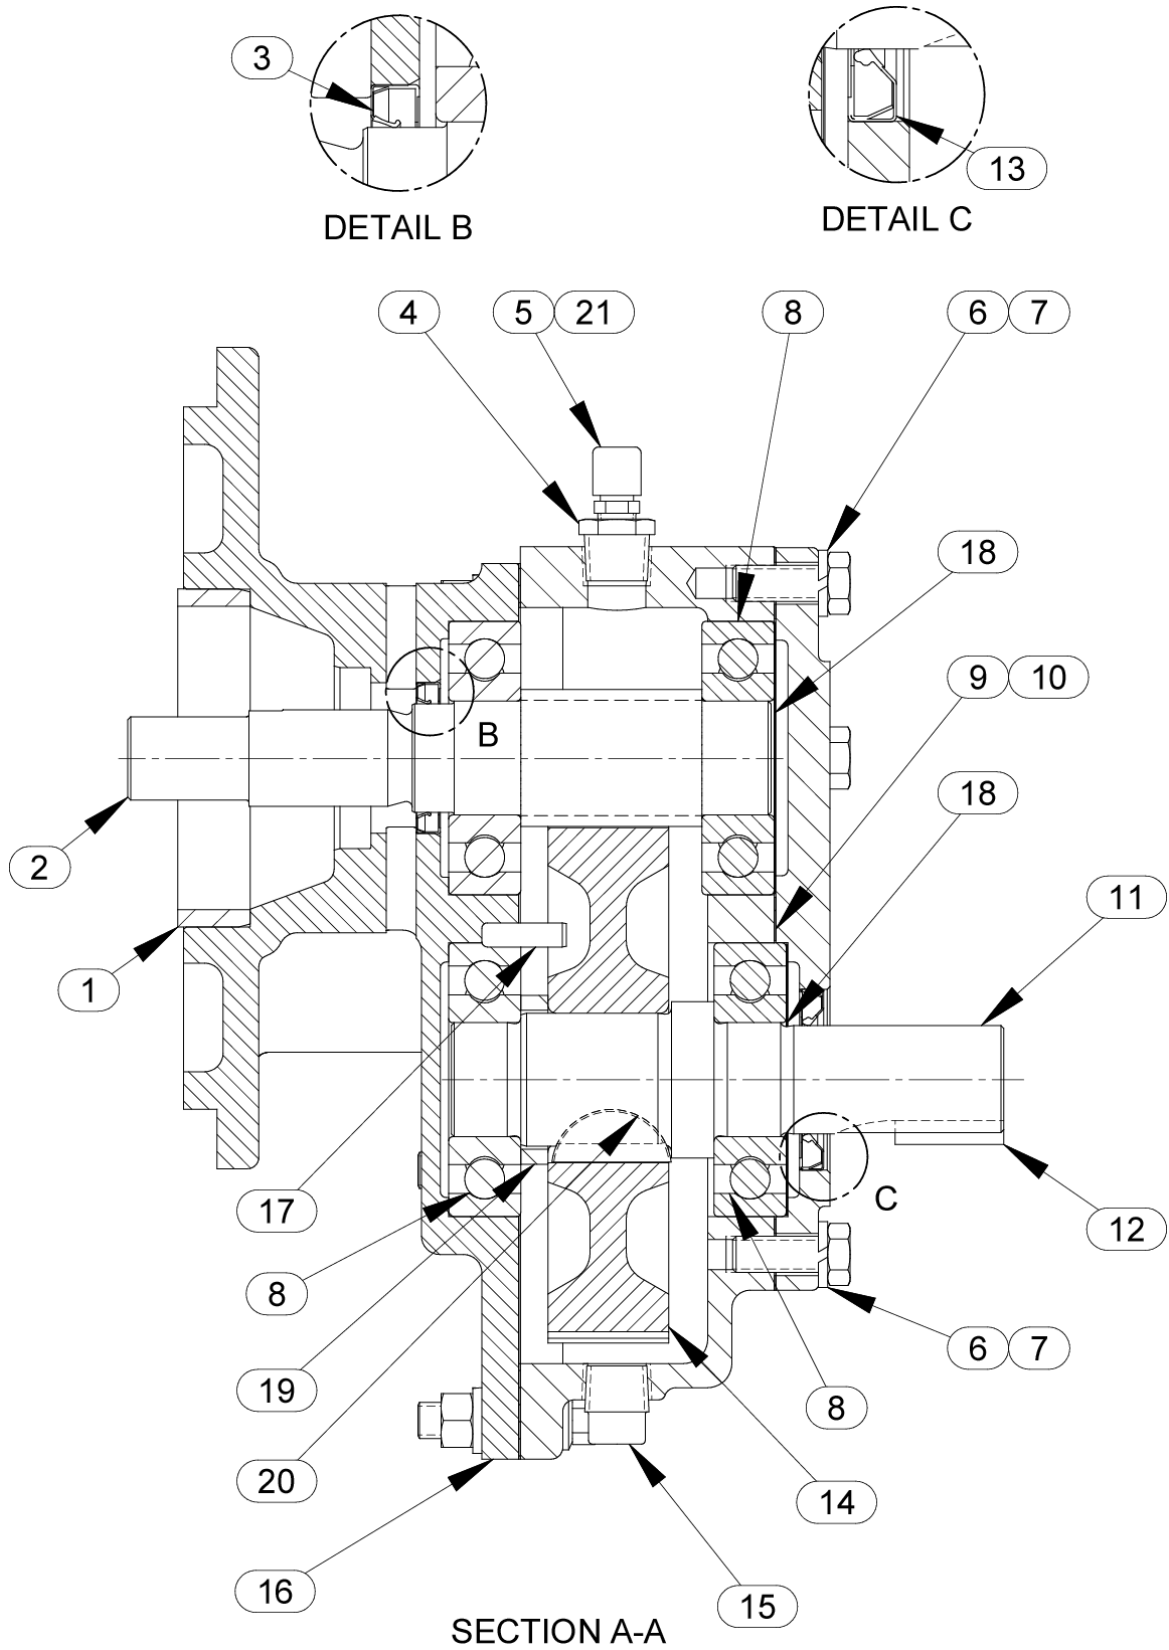

Figure 2. 44161-016 Gearbox Assembly
To service the impeller, wear ring or seal assembly, the pump casing (1) must be separated from the seal plate (27, Figure 2).
To loosen the impeller screw (21), immobilize the drive shaft (14, Figure 2). Remove the impeller screw, lockwasher (22), and impeller washer (19).
Inspect the pinion shaft (2, Figure 2) for distortion, nicks, scratches, or damage to the shaft keyway. Dress small nicks or burrs with a fine file or emery cloth. If excessive wear exists, refer to **GEARBOX DISASSEMBLY** and replace the shaft.